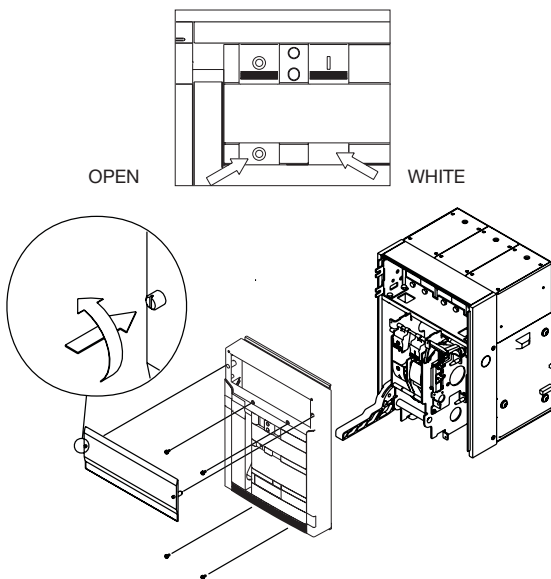
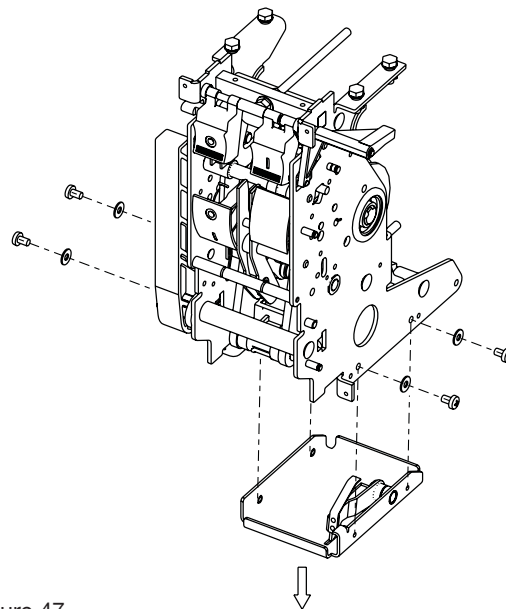
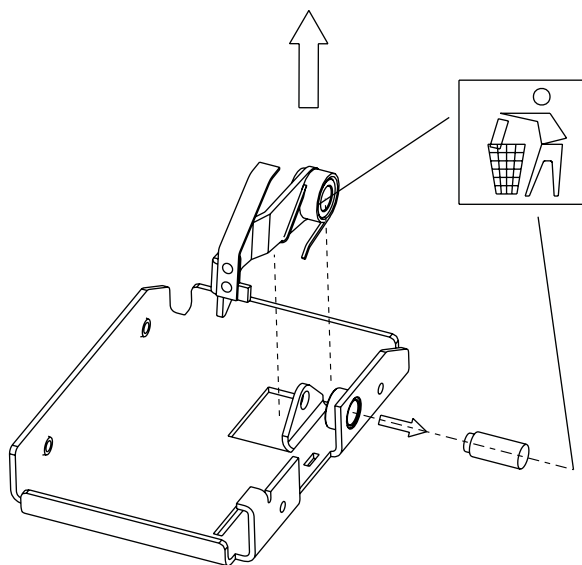
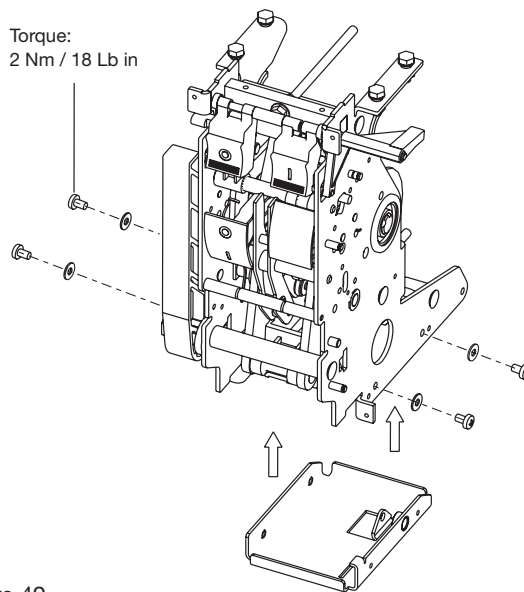

Figure 46.
Figure 47.
Figure 48.
Figure 49.
**WARNING: The undervoltage release (YU) is incompatible with the Fail Safe device (preventing withdrawal when the spring is loaded).**
**If a Fail Safe device is present, remove it as indicated in Figure 46, Figure 47, Figure 48 and Figure 49.**